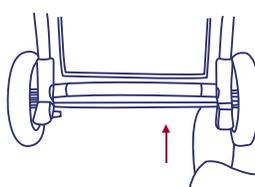
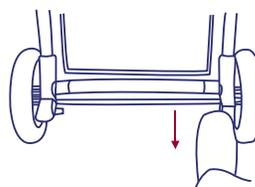

Fig. 6
Fig. 5
- To engage brakes, apply light downward pressure to the brake lever located on each rear wheel. The stroller may require slight forward or rearward movement in order to line up the teeth on the brake with the each wheel brake cluster. See figure 5. Check that the stroller will not move and that the brakes are properly applied. To release, gently lift up on the brake lever. See figure 6.